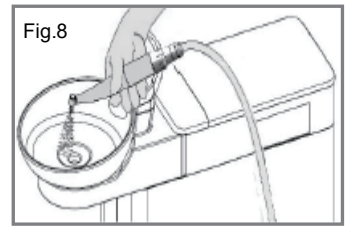

Fig.8
3. Hold the handpiece over the cuspidor or over a watertight container on main dental unit with sufficient capacity and press the purging key on the main dental unit. Setting time to clean and disinfect the waterlines base on manual instruction of main dental unit. (Fig.8)